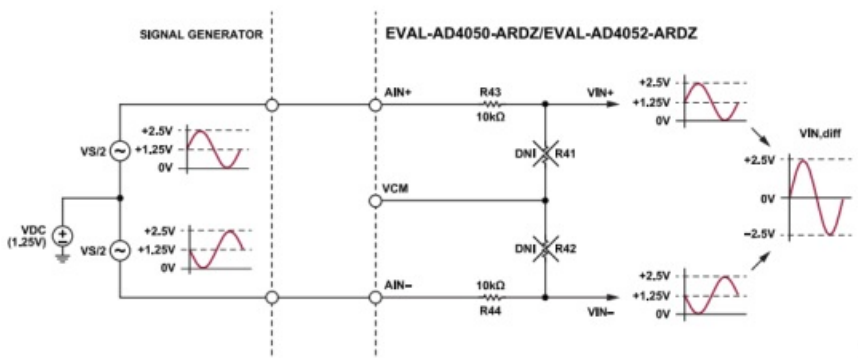

Figure 16. Biased Differential Signal Generator Example
► For signal generators with differential outputs that provide their own DC offset, the VCM input can be left disconnected. In the factory default configuration, the R41 and R42 resistors that are used with the VCM input will attenuate the differential input signal by half. It is recommended to disconnect R41 and R42 when using these types of signal generators, as shown in Figure 16.
by half. It is recommended to disconnect R41 and R42 when using these types of signal generators, as shown in Figure 16.